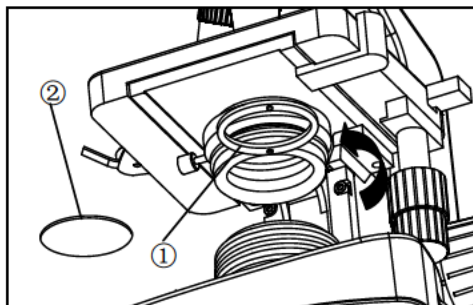

Fig.7
2.2.4 Installing the color filters (Fig.7)
1. Turn the condenser bracket① out at the direction of arrow in Fig.7